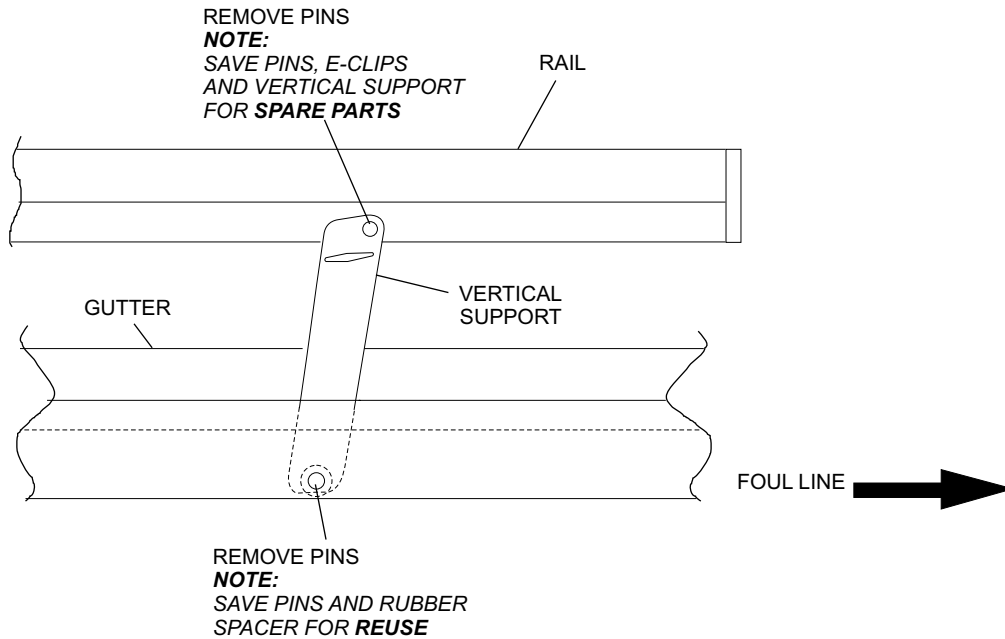

Figure 3
4. Remove pivot pins, E-clips and the first vertical support **ONLY**, from the first section of gutter. Refer to *Figure 3*.